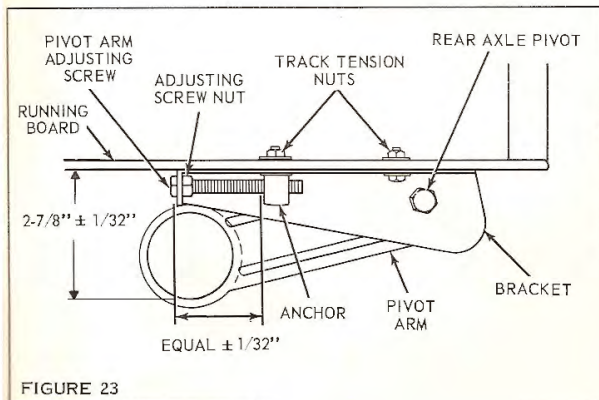

FIGURE 23
Proper track tension is essential to keep sprocket and track wear at a minimum. Track tension can be checked by first blocking up the snowmobile, so that the track hangs free, and placing the front edge of the skis against a stationary object. Next, measure the distance from the bottom of the pivot arm bearing bore to underside of running board as shown in Figure 23. Track tension is correct in this distance is $2\text{--}7/8'' \pm 1/32''$. If track tension must be adjusted, proceed as follows:
1. Loosen track tension nuts. See Figure 23.